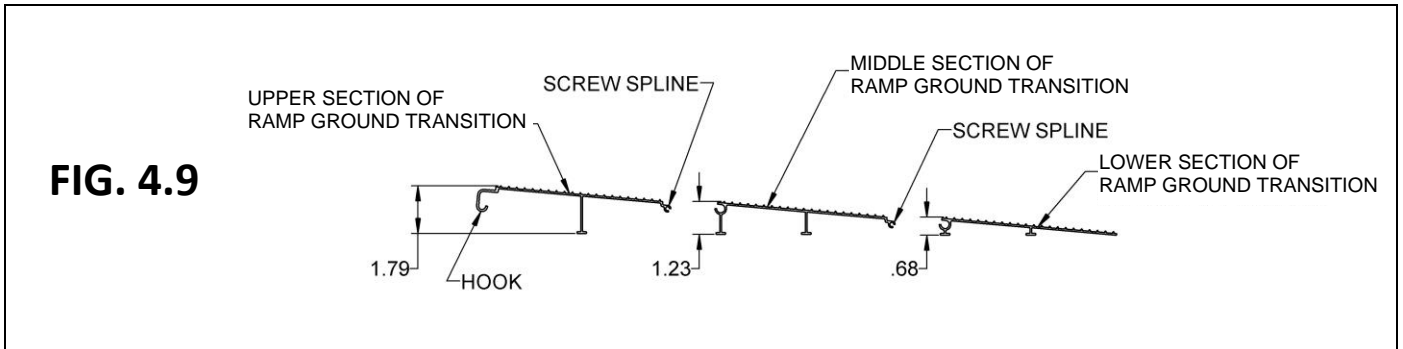

FIG. 4.9
4.5.1. The PRGT (RAMP GROUND TRANSITION) consists of three sections that need to be installed into the ramp and connected together (FIG. 4.9).